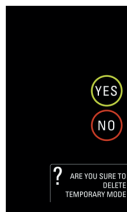

Fig.80
14.1.3 Confirm by pressing  . Fig.80